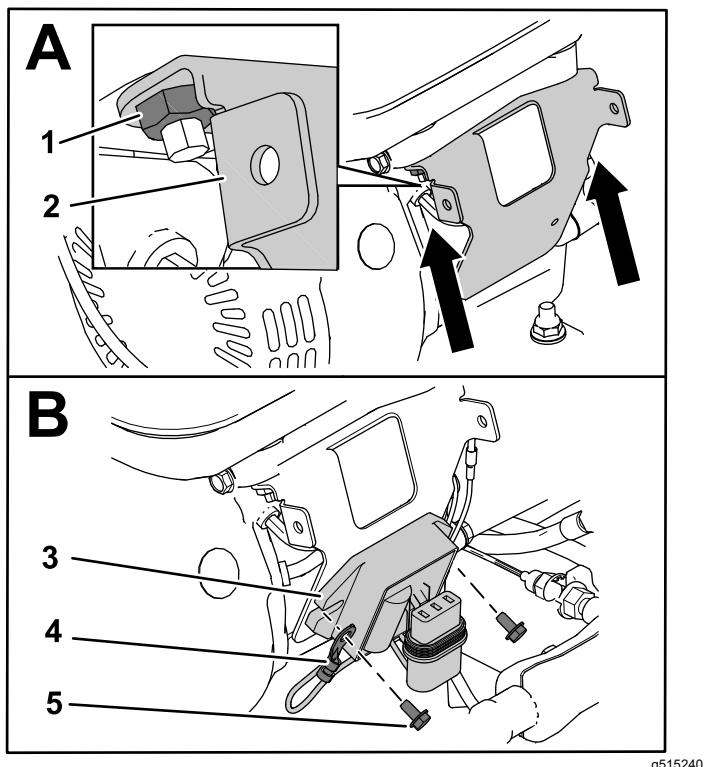

Figure 1
1. Install the mount plate and regulator to the engine case using 2 flange nuts and 2 flange bolts as shown in Figure 1.
Important: Install the ring terminal from the regulator connector on top of the regulator. (Figure 1).